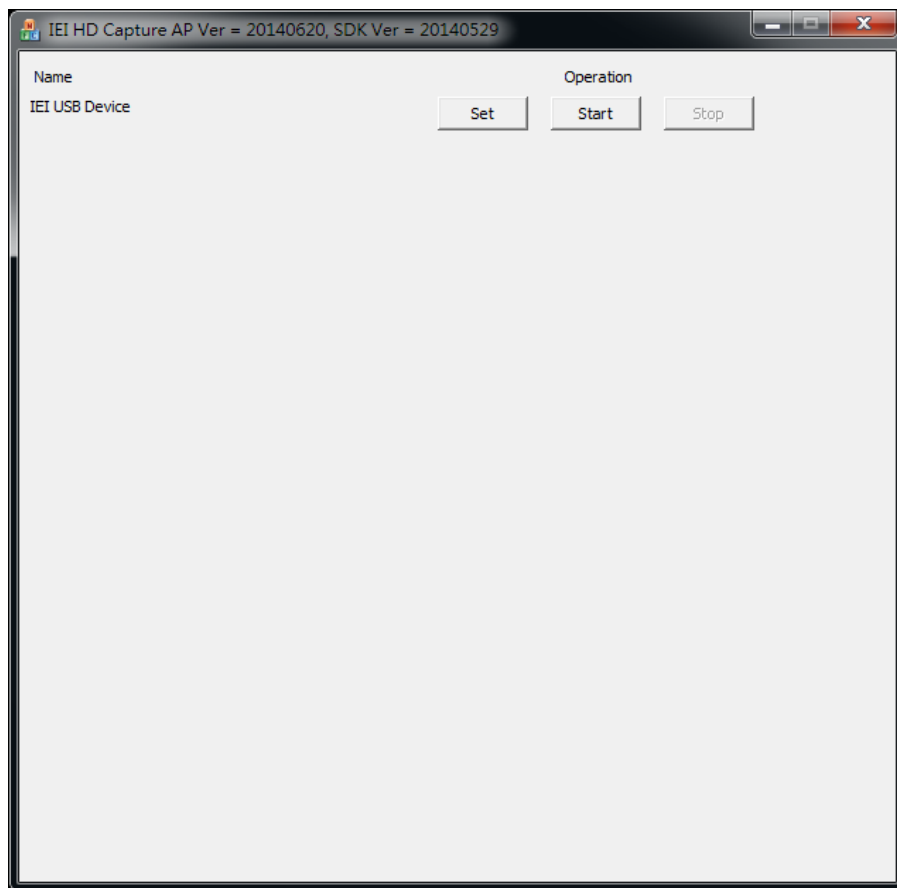

Figure 4-6: IEI HD Capture AP
Step 2: The IEI HD Capture AP user interface appears (**Figure 4-6**). Click the **Set** button to configure the settings.